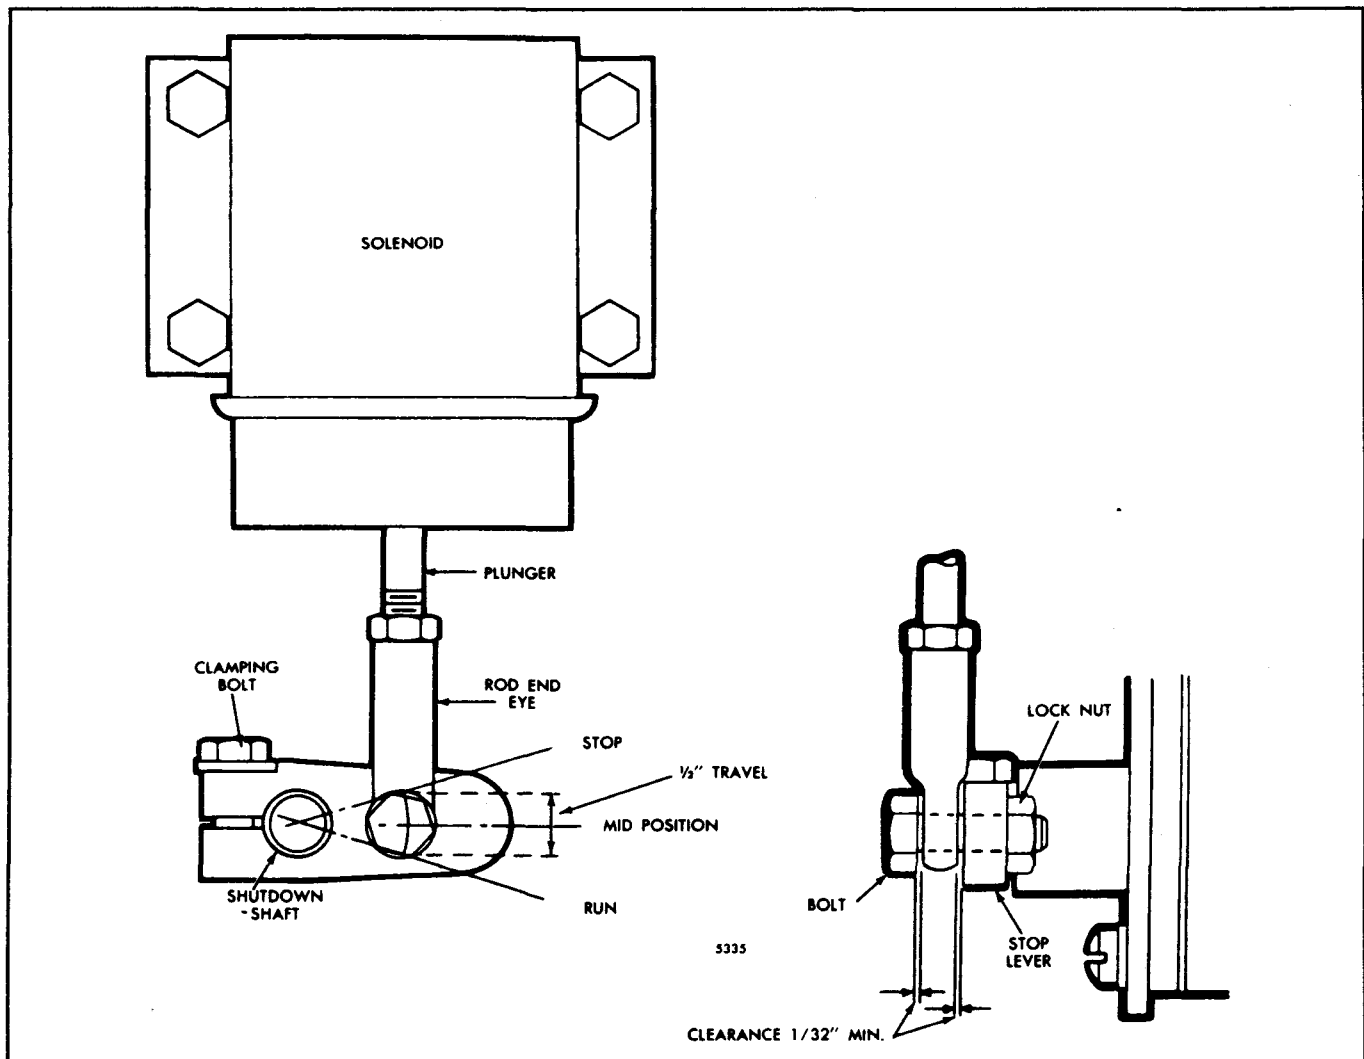

Fig. 5 - Typical Variable Speed Governor Lever Position
1. Remove the bolt connecting the rod end eye (variable speed governor) or the right angle clip (limiting speed governor) to the stop lever (Figs. 5 and 6). Align and clamp the lever to the shutdown shaft in such a way that, at its mid-travel position, it is perpendicular to the solenoid plunger. This assures that the linkage will travel as straight as possible. The solenoid plunger has available 1/2" travel which is more than adequate to move the injector control racks